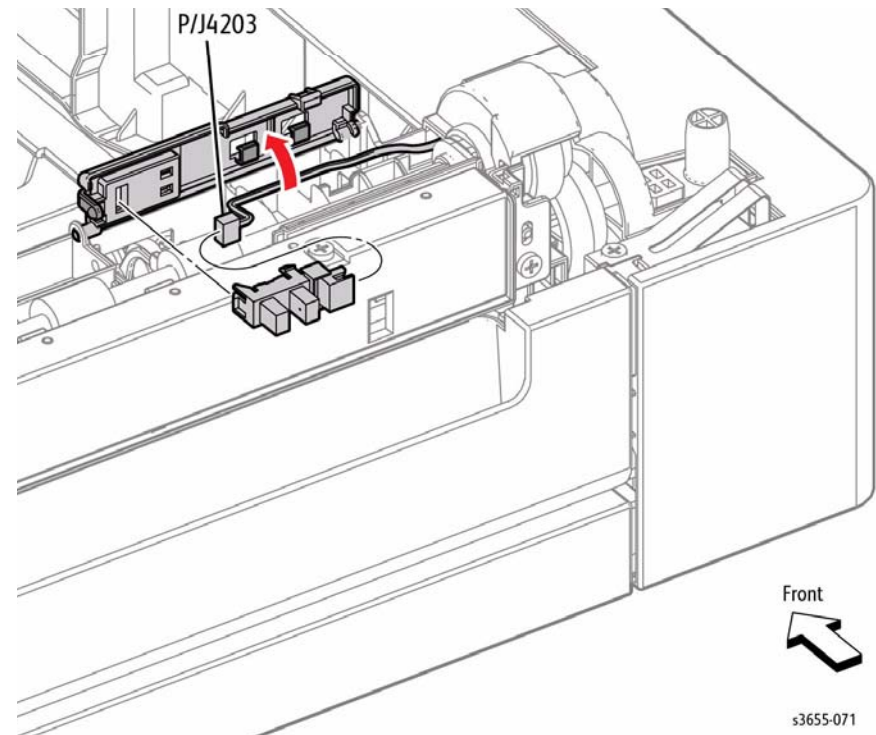

Figure 1 Remove the No Paper Sensor
4. Refer to Figure 1 to locate and release 3 clips that secure the sensor holder to the Feeder Assembly, then disconnect and remove the No Paper Sensor.